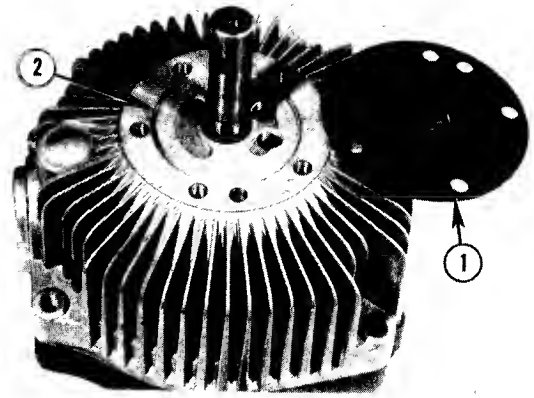
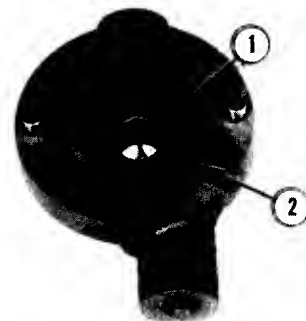

FIG. 4.43-PUMP PLATE & O-RING
FIG. 4.44-CHARGE PUMP BUSHING & O-RING
6. Remove pump plate, No. 1, Fig. 4.43, noting "O" - ring, No. 2.
b. It is recommended that new "o" - rings be installed on both sides of the pump plate during reassembly. One "o" - ring is located in groove, No. 2, Fig. 4.43 and the other is in groove, No. 2, Fig. 4.44.
c. Check for excessive wear between bushing, No. 1, Fig. 4.44, in charge pump and input shaft. Specified clearance is .0013" to .0033". Replace parts as necessary.